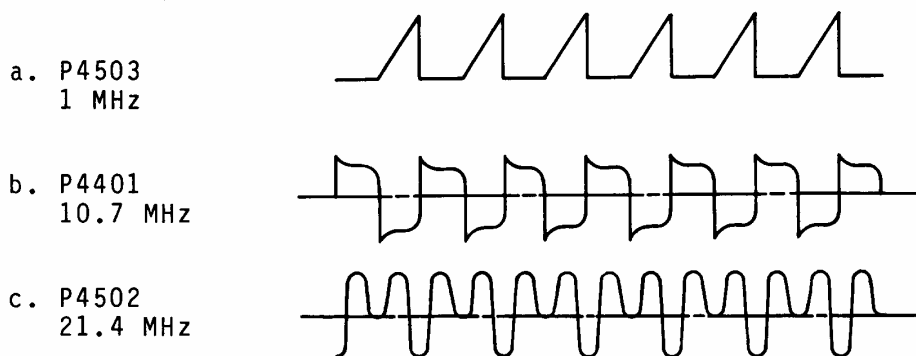

Figure 7-11 Digital Module Input Signals
6. Using the Oscilloscope, verify the signals shown in Figure 7-11 are present.